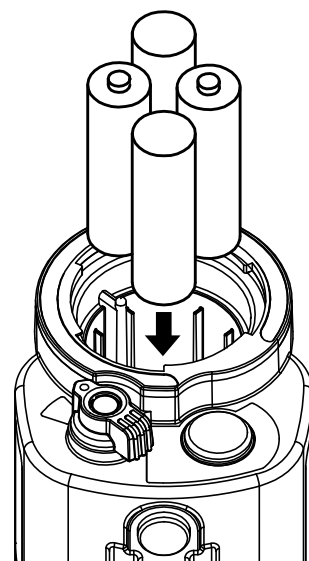

Fig.2
**4** Insert four batteries with the polarity shown in the battery compartment. (Fig.2)